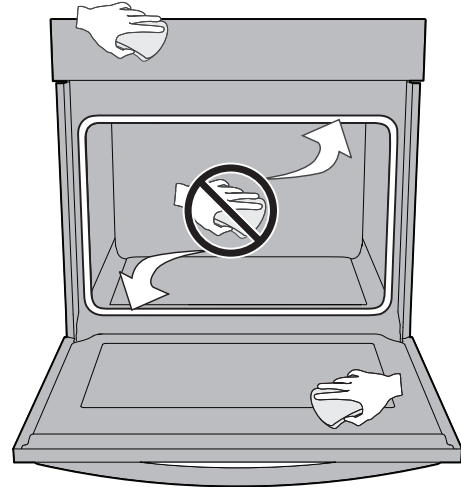

Figure 11: Clean around the oven door gasket
9. Wipe oven cavity and bottom. Do not clean oven door gasket (Figure 11). Avoid leaning or resting on the oven door glass while cleaning cavity.